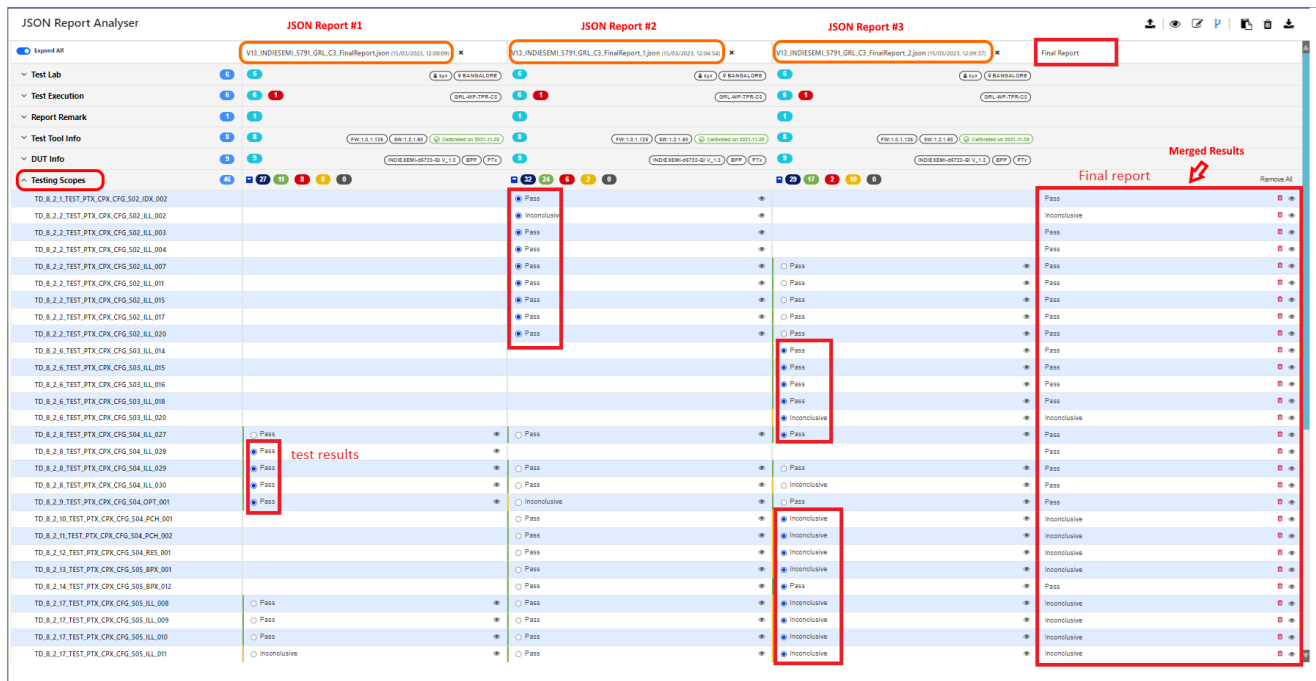

FIGURE 8.89: MERGED TEST RESULTS FROM MULTIPLE JSON REPORT FILES
-  – Click on this icon to view a summary of the JSON report. An example is as shown in Figure 8.89 below which displays the number of test cases with their respective test run results for each JSON report.
2. Then click on the Testing Scopes data field and select the test results from JSON Report #1, JSON Report #2 and JSON Report #3 as indicated in the Figure 8.89 example below. The selected test results will be reflected under “Final Report” as merged results.